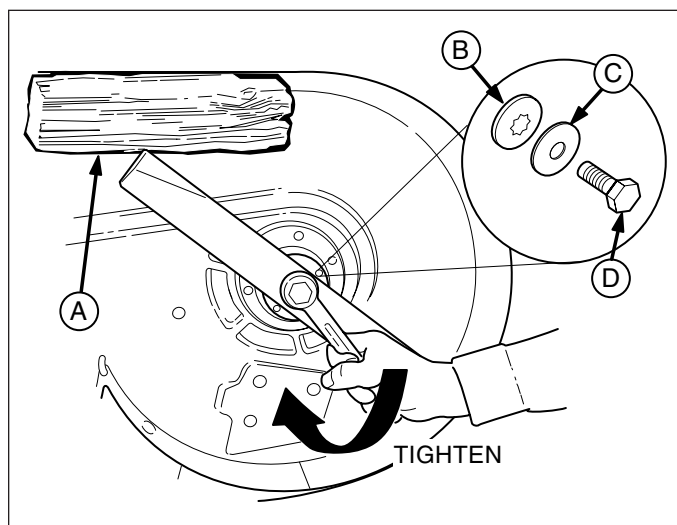

Figure 38. Installing The Blade
6. Reinstall each blade with the tabs pointing up toward deck as shown in Figure 40. Secure with a capscrew (D, Figure 38), spring washer (B), and spline washer (B). Be certain the spline washer is aligned with the shaft splines. Use a wooden block to prevent blade rotation and torque capscrews to 45-55 ft.lbs. (61-75 N.m.).